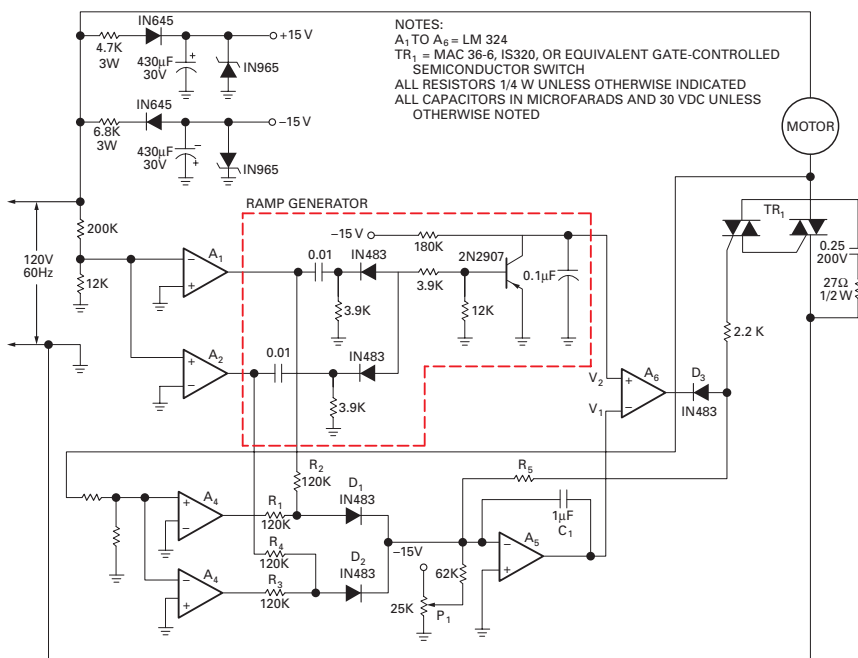

Figure 20-15
Refer to **Figure 20-15** for a schematic diagram of a power-factor controller. Follow these steps to create the drawing:
CAD drafters use symbol libraries to produce circuit diagrams. Follow these steps to create the schematic diagram in Figure 20-15.
3. Using DesignCenter, open AutoCAD's electronics symbol library. Select the appropriate symbols and drag them into place on the drawing as in Figure 20-15. If necessary, scale the symbols, but remember to use the same scale for all of the symbols.
6. Check the drawing against Figure 20-15 to be sure that all of the symbols are present and properly placed.